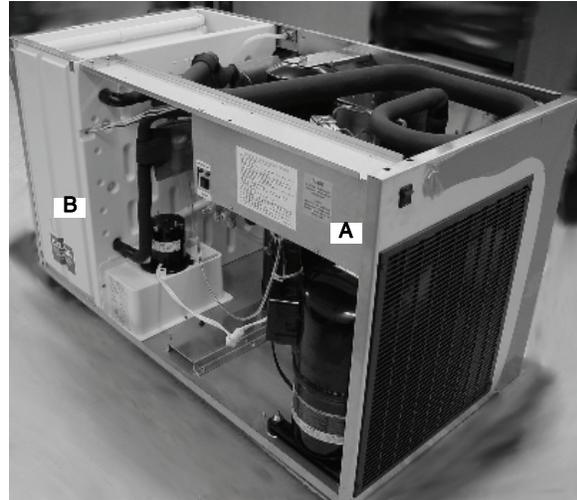

Figure 49.
65. After verify the proper operation of the unit, replace the electrical control box cover (A) using (1) Phillips head screw.
Replace the evaporator splash panel (B) (FIGURE 49).